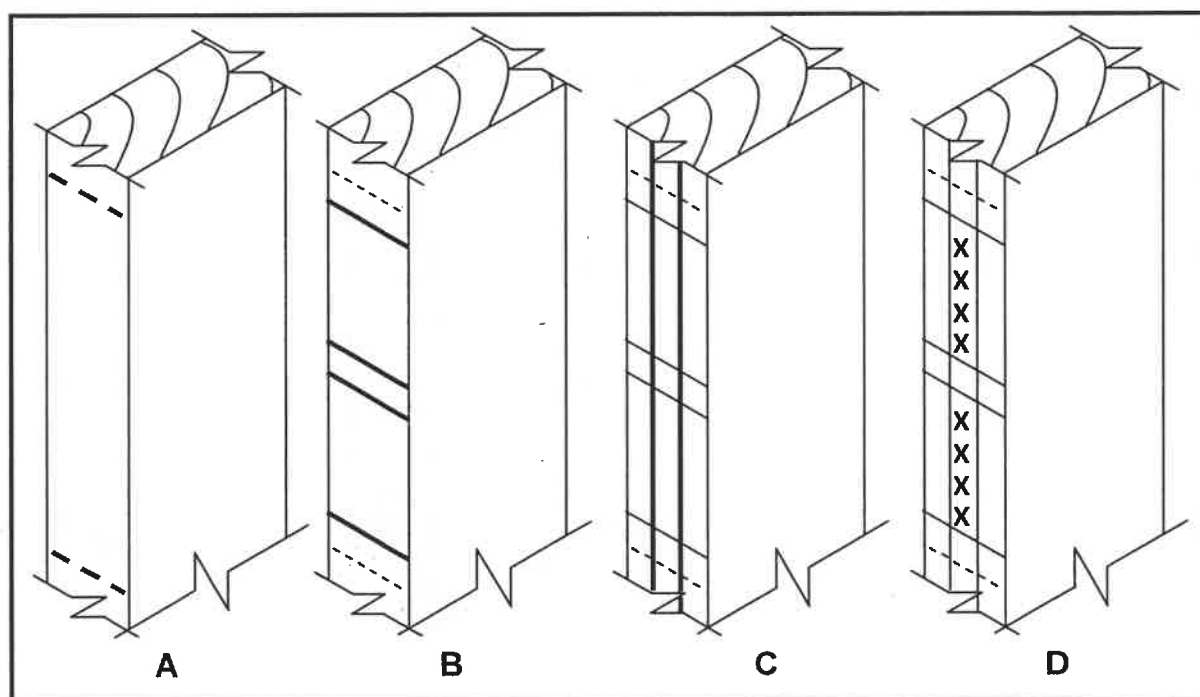

FIGURE 6.3
- 6.3 FIGURE 6.3 shows the steps of marking out of the mortises of a double stub mortise and tenon joint for the lock rail of a three-panel door. (1)